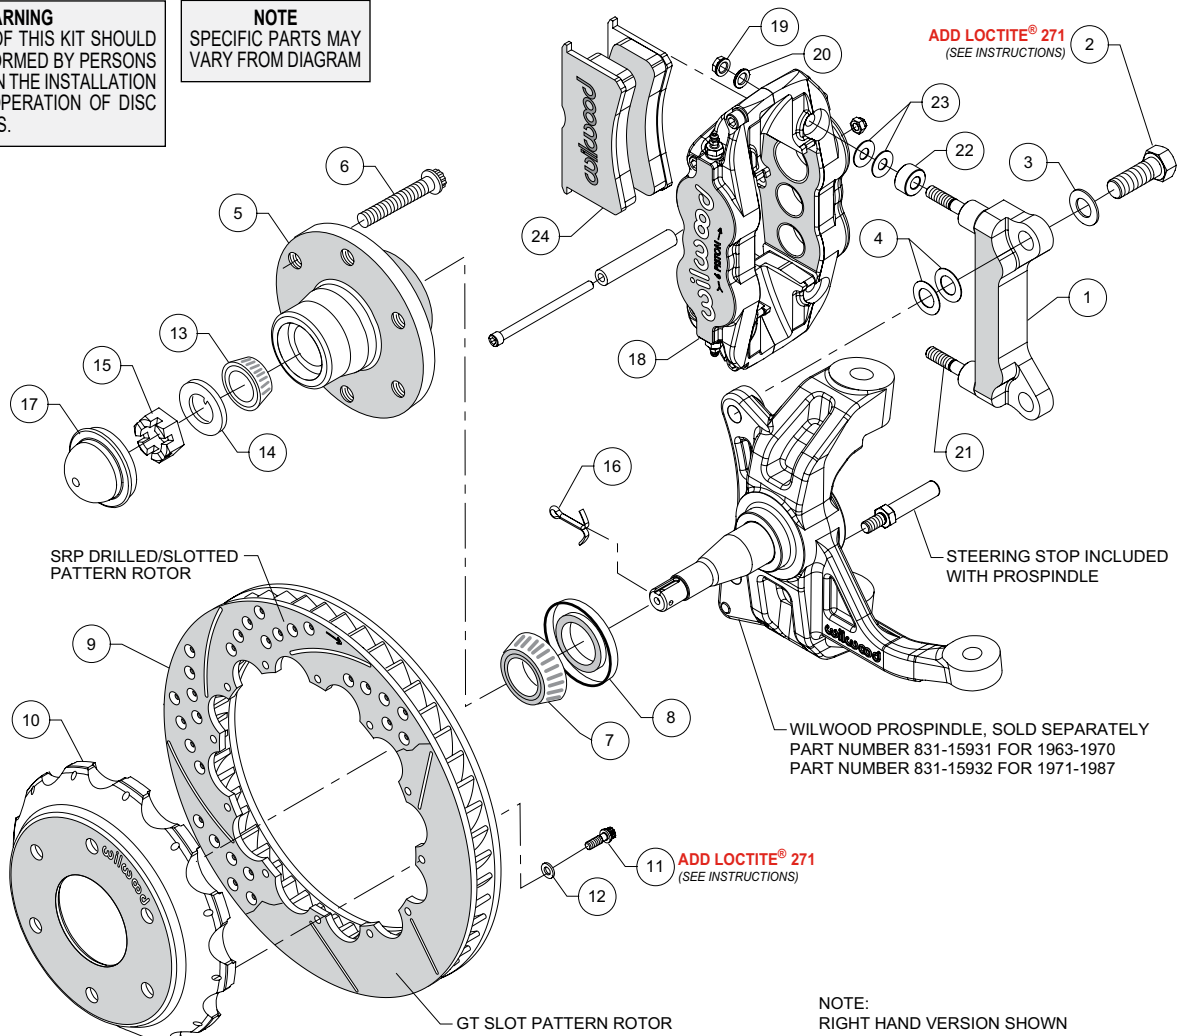
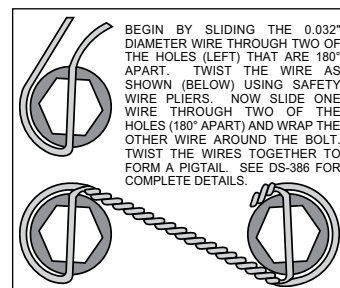

Figure 1. Typical Installation Configuration
Figure 3. Safety Wire Diagram
Assembly Instructions (numbers in parenthesis refer to the parts list and Figure 1 on the preceding pages):
- Install the steering stop bolt (included with the ProSpindle) into the spindle as shown in Figure 1 and Photo 1. Torque to 25 ft-lbs.
- The caliper mount bracket (1) should initially be installed with clean, dry threads on the mounting bolts. Orient the bracket, as shown in Figure 1 and Photo 2, and install using bolts (2) and washers (3). Initially place two .024" thick shim (4) on each bolt between the bracket and spindle, Figure 1. Temporarily tighten the mounting bolts. **NOTE: The bracket must fit squarely against the mount bosses on the spindle.** Inspect for interference from casting irregularities, machining ridges, burrs, etc. Later, after the caliper alignment has been checked, the mount bolts will be secured using red *Loctite*® 271.
- Install wheel studs (6) into the hub (5), Photo 3. Torque to 77 ft-lb.
- Press the dust cap (17) into the hub (5). **NOTE: Do not hammer center of cap. Install using outer flange only.**
- Orient the rotor (9) and the hat (10) as shown in Figure 1 and Photo 7. Attach rotor to hat using bolts (11) and washers (12). Apply red *Loctite*® 271 to the bolt threads and torque to 155 **in-lb** using a criss-cross pattern. For an added measure of security, the bolts may be safety wired using standard 0.032 inch diameter stainless steel safety wire as shown in Figure 3. Refer to Wilwood's data sheet DS-386 (available at www.wilwood.com/Pdf/DataSheets/ds386.pdf) for complete safety wire installation instructions.
- Slide the hat/rotor assembly (10 and 9) onto the hub (5), Photo 8. **NOTE: The hat must fit flush against the hub face or excessive rotor run out may result.** Install three lug nuts (finger tight) to keep the hat/rotor assembly in place while continuing with the installation, Photo 8.
- **NOTE: This kit contains distinct right and left hand calipers that must be mounted in a specific direction, as described below.** Initially place two .035" thick shims (23) and one spacer (22) on each stud (21) between the caliper and the bracket, as shown in Figure 1 and Photo 9. Mount the caliper (18) onto the bracket (1) using lock nuts (19) and washers (20), Figure 1. Temporarily